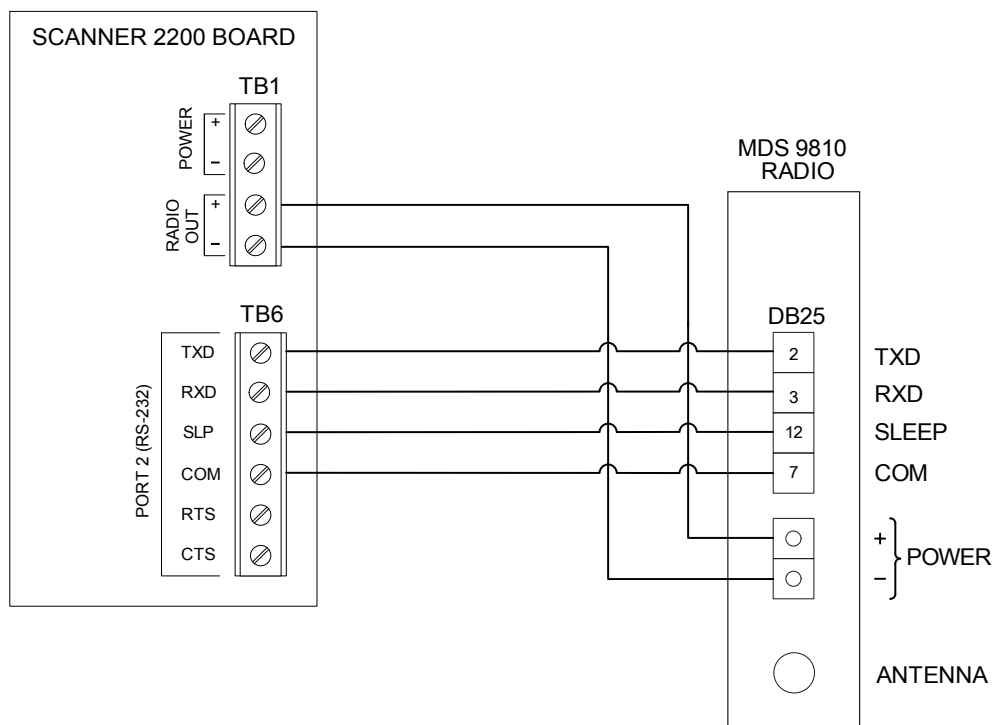

Figure B.3—MDS 9810 radio installation
6. Connect the radio communications cable DB-25 male connector to the data port on the radio and tighten the two screws. Connect the other end of the cable to Port 2 (TB6) on the CPU display board as shown in Figure B.3.
7. Connect the two-position radio power plug to the radio power terminal and tighten the two screws. Connect the other end of the power cable to TB1 (Radio Out) on the CPU/display board as shown in Figure B.3.